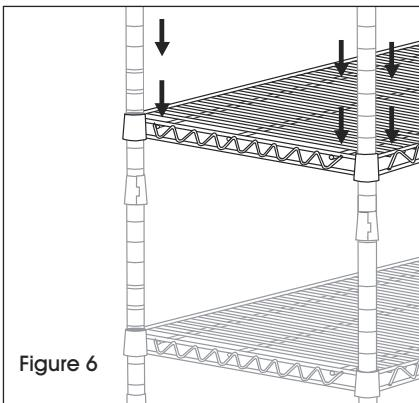

Figure 6
4. Count roughly 15-16 whole post spacing slots up from the previously placed shelf. Snap on shelf supports then add and secure shelf (See Figure 6). Repeat to add the remaining shelves.